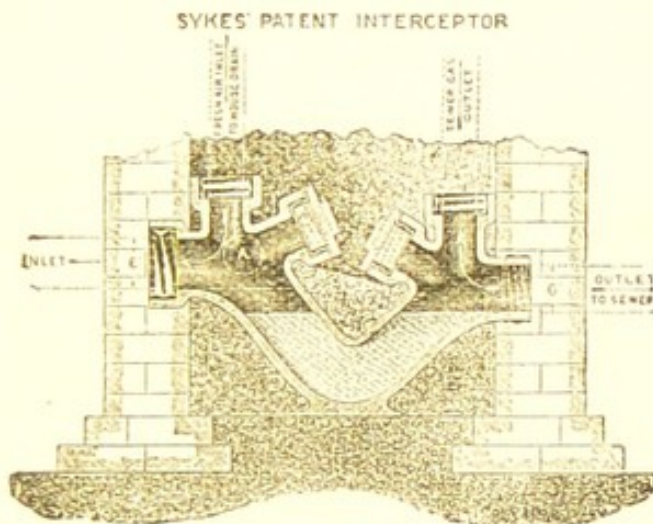

FIG. 18.
*The Sykes' Patent Interceptor* (Fig. 18) which is now being introduced into the market has several very good and original points about it. Besides possessing all the advantages of a good *self-cleansing* trap, it gives ample means of access for the purposes of inspection and rodding the drain, and also provides a connection for a sewer ventilator, which latter